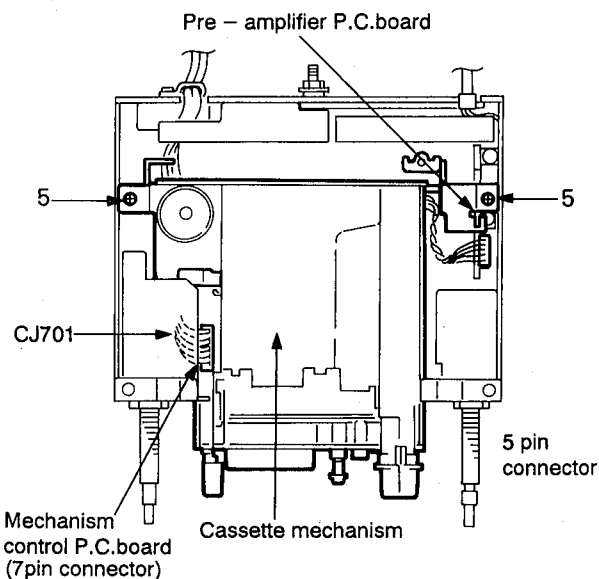

Fig. 4-5
■ Cassette mechanism assembly (Figs. 4-5, 4-6)
2. Remove two flat head screws (5) retaining the cassette mechanism assembly from the main body.
5. Place the set upside down, and remove two flat head screws (6) retaining the cassette mechanism assembly.